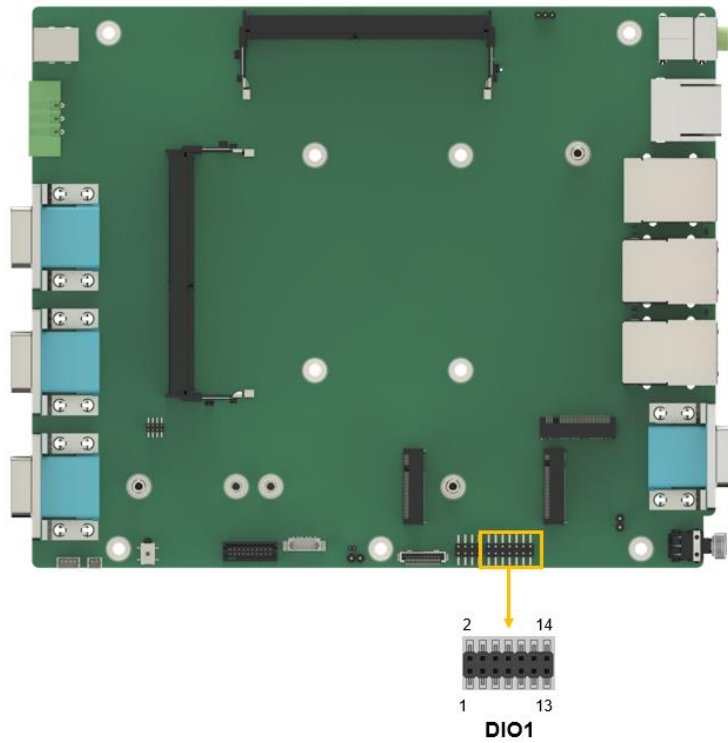

Figure 4-17: Digital I/O Connector Location
- CN Location:** See **Figure 4-17**